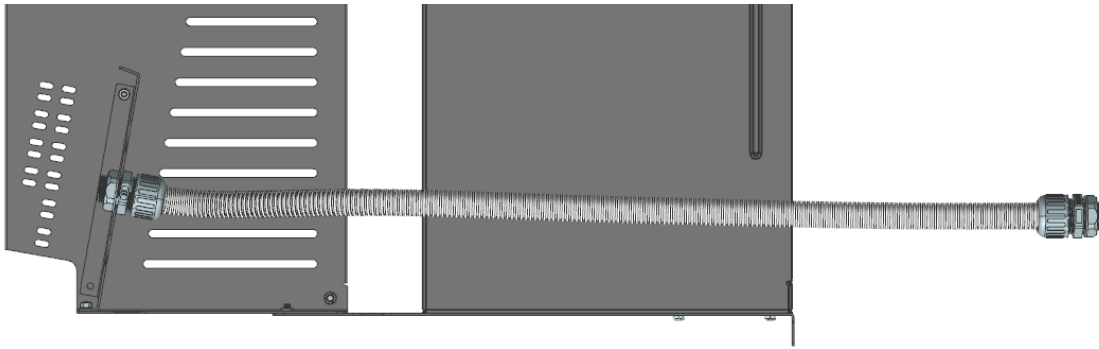

Fig.3H
- Straighten the conduit tube assembly. (Fig. 3H)